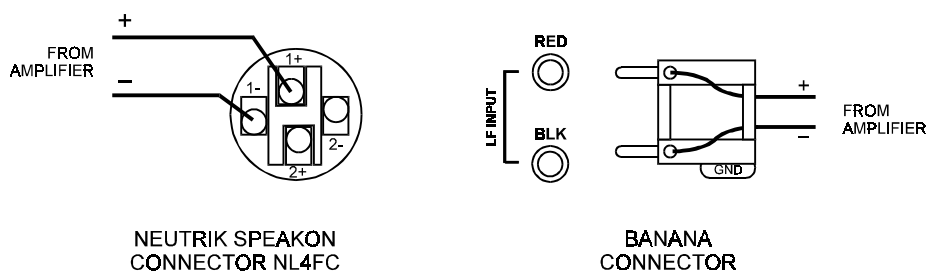

FIGURE 6: Wiring for SBS Subwoofers
10.5.3 SBS Subwoofer (See FIGURE 6)
Make connections to the SBS subwoofer as shown in FIGURE 6 observing proper polarity.